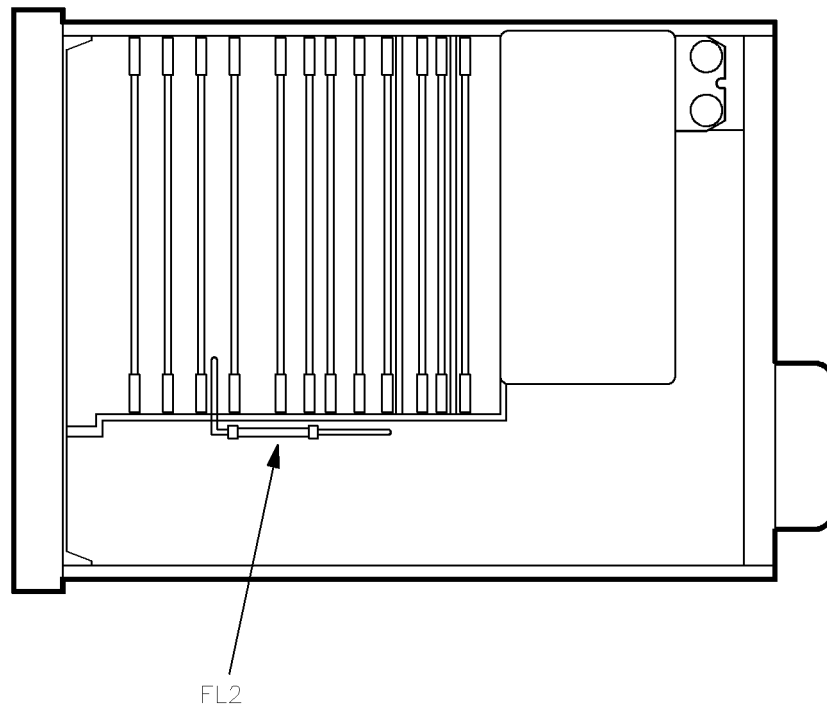

Figure 3-4. FL2 Location
1. Turn the synthesizer to standby. At FL2 (see Figure 3-4), disconnect the semi-rigid cable between FL2 and the A6 assembly.